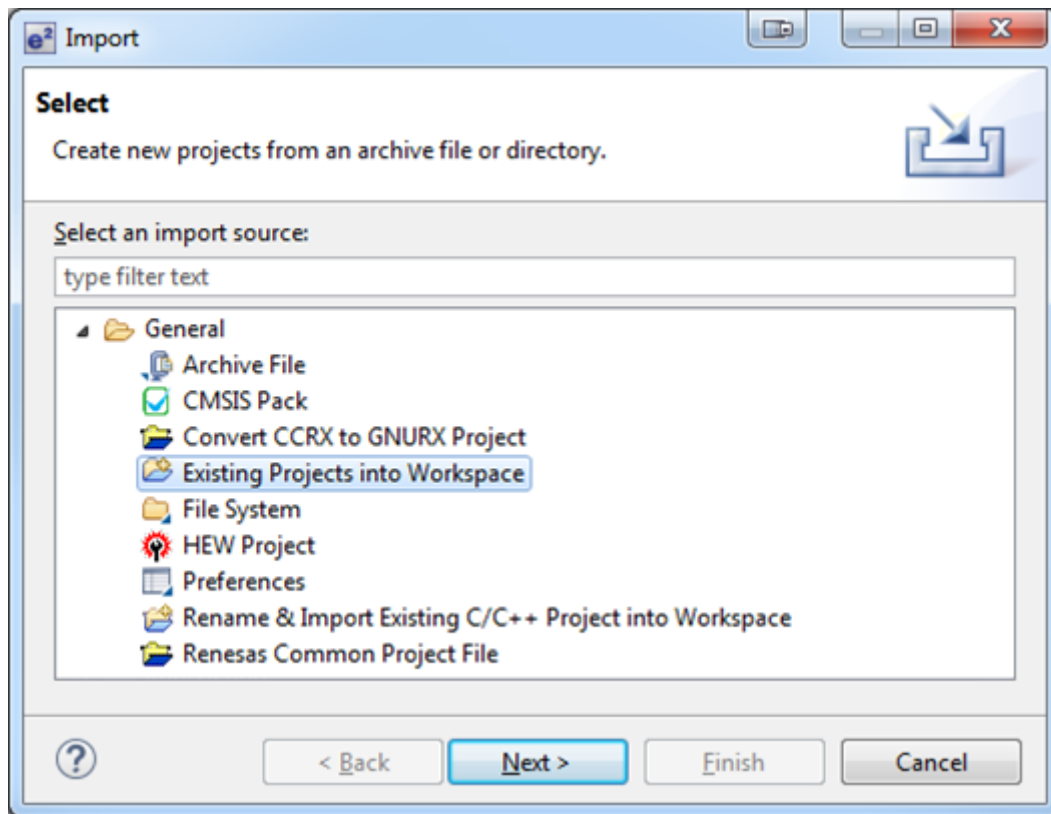

Figure 2.6 Project Import dialog with “Existing Projects into Workspace” option selected
5. In the Import dialog box, as shown in Figure 2.6, choose the **General** option, then **Existing Projects into Workspace**, to import the project into the current workspace.